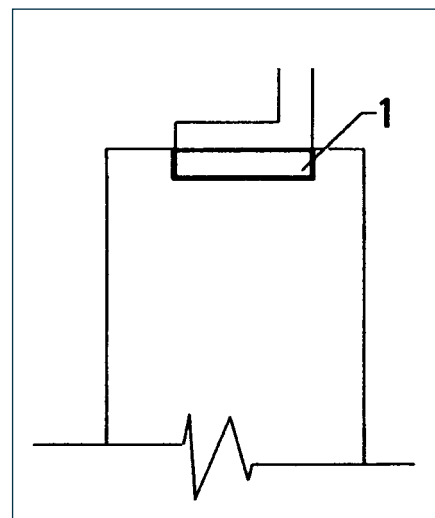

Fig. 11
Where the machine leans on the foundations, steel plates (1), which are the same size as the contact surface of the mixer, must be used (fig. 11).
The size of the support structure must be greater than the contact surface of the mixer (fig. 11).